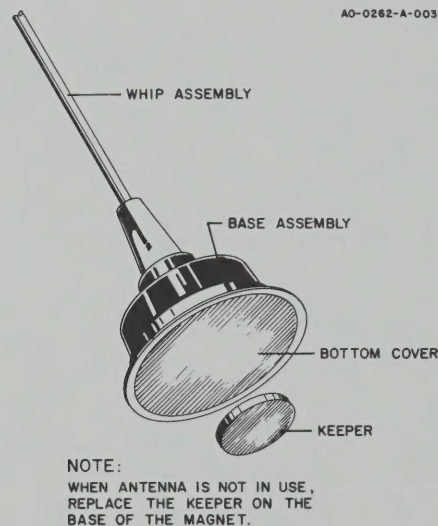

Figure 3
- () Remove the "keeper" from base of the magnet. See Figure 3.